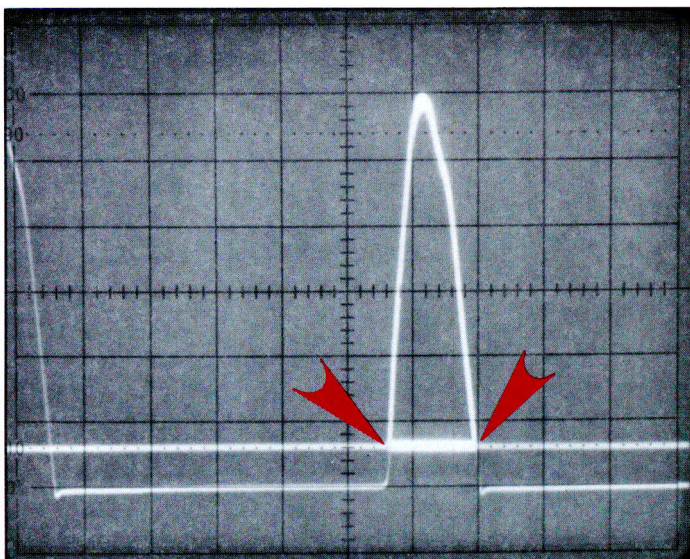

Fig. 4: The time duration measurement of the retrace pulse should be made from the 10% to 90% levels.
5. Adjust the DELTA BEGIN knob so the left-side of the intensified trace aligns with the left-side intersection of the CHANNEL A and CHANNEL B traces (Figure 4).